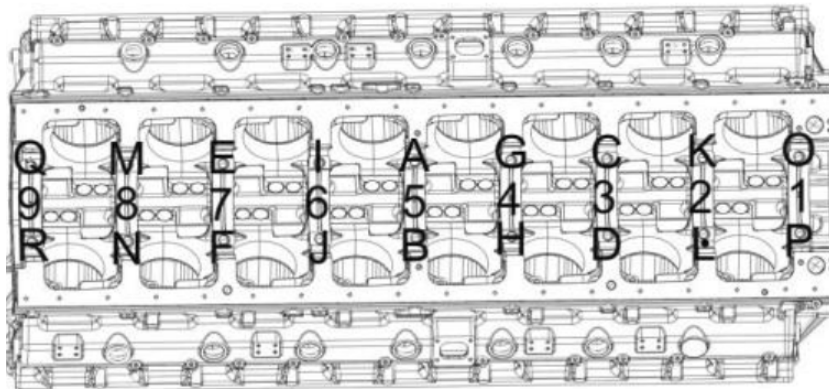

Figure 125.
9. Tighten the main bearing bolts and the side auxiliary bolts in the following sequence (Figure 125 & 126):